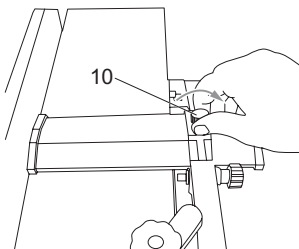

Fig. 25
> Loosen the blade guard locking knob (10) (turn clockwise). (Fig. 25)